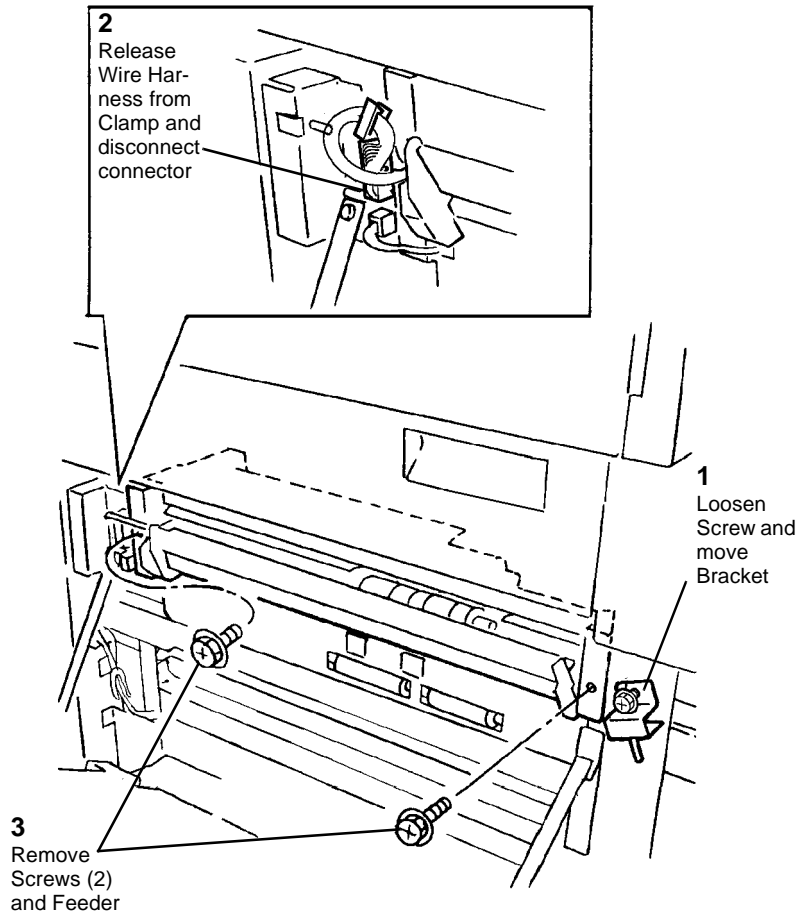

Figure 1 Removing the Tray 2 Feeder
3. Remove the Tray 2 Feeder (Figure 1).